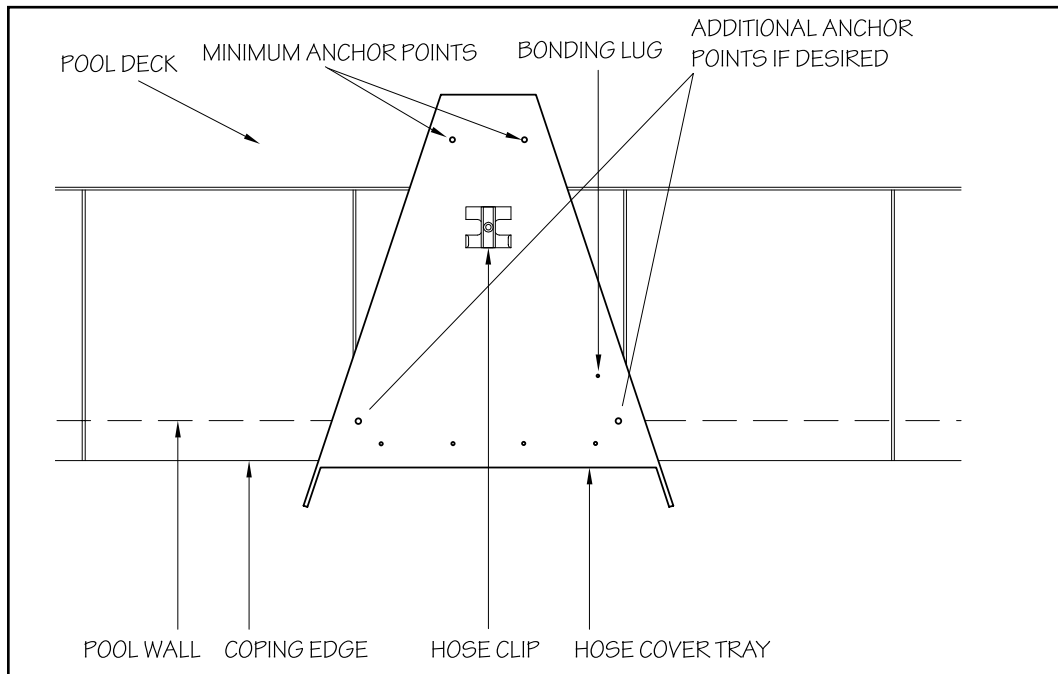

Fig. 8.2
- 8.3 Use the provided 5/32" (4mm) drill bit to drill a hole into the deck approximately 2" (50,8mm) deep through the two holes in the rear of the tray. These holes must be drilled into solid decking material. While these 2 screws are enough to secure the Fastlane Pro to the pool wall, extra anchor screws have been provided for additional anchor points if desired (Fig 8.2).
- 9.4 Run the hydraulic hoses up and out of the pool and into the hose cover tray. Place the hoses under the hose clip (see Fig 8.2). Pull any excess hose out of the pool and out of the hose cover tray. Once the hoses are in the hose clip, secure the clip to the tray.